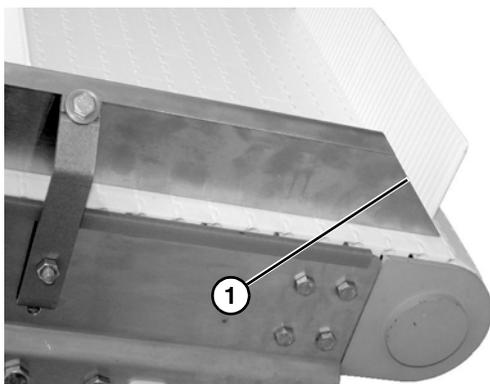

Figure 28
When installing guides, be sure that the angled end of guide is installed on the idler end of conveyor (**Figure 28, item 1**).